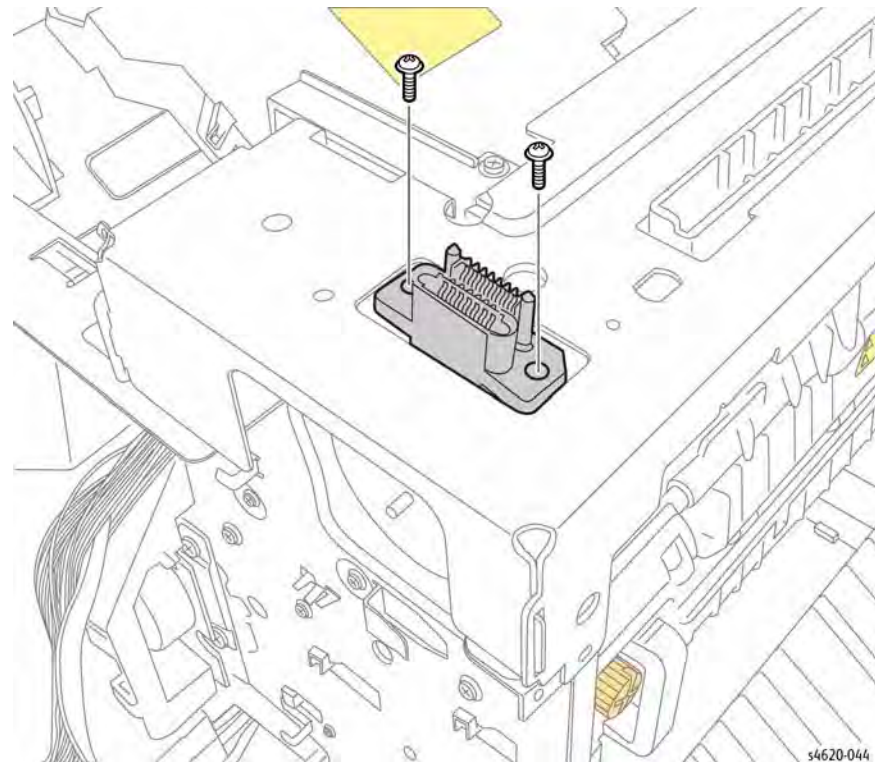

Figure 1 Remove the Upper Option Connector screws
8. Remove 2 screws that secure the Upper Option Connector to the chassis, Figure 1.